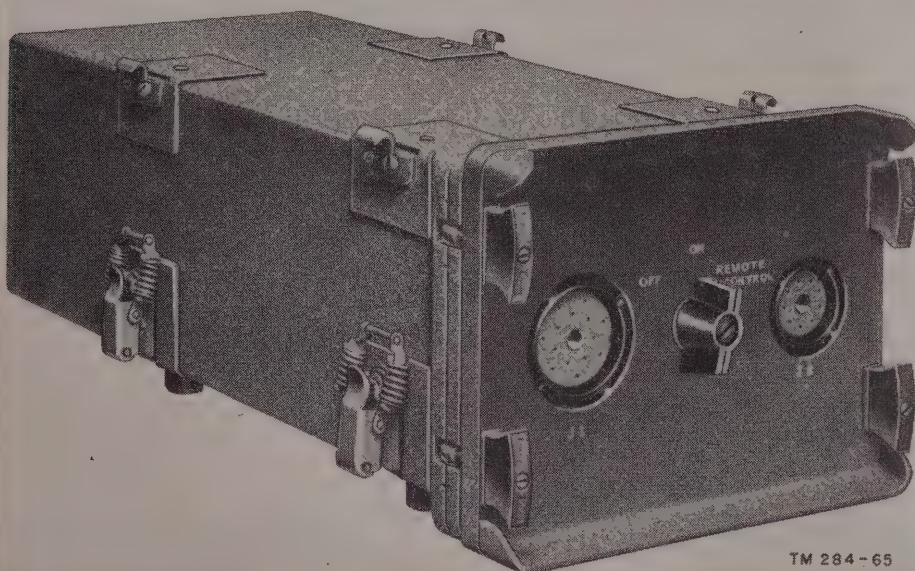

Figure 54. Case CY-590/GRC, front view.
b. CASE CY-590/GRC (fig. 54).
- (1) The battery box (when used) is connected to the receiver-transmitter. It supplies sufficient power to operate the receiver section. When the hand generator is connected to it, the generator supplies the additional power needed for transmission.
- (2) Case CY-590/GRC is a battery box which holds five series-connected 1.5-volt Batteries BA-403/U and one 90-volt Battery BA-419/U.
- (3) Two receptacles and a switch are mounted on the front panel of the battery case (fig. 54). The receptacles are used for interconnecting the battery case with the receiver-transmitter and the hand generator. The switch is used to complete or break the battery circuits to the receiver-transmitter. The REMOTE CONTROL position of the switch is not used with radio sets AN/VRC-16 through -18.